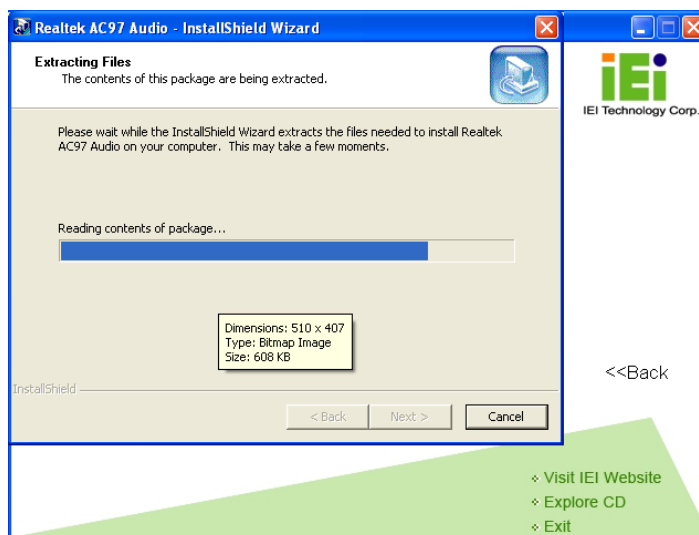

Figure 6-20: AC'97 Driver Installation File Extraction
Step 5: The installation files are extracted as shown in Figure 6-20.